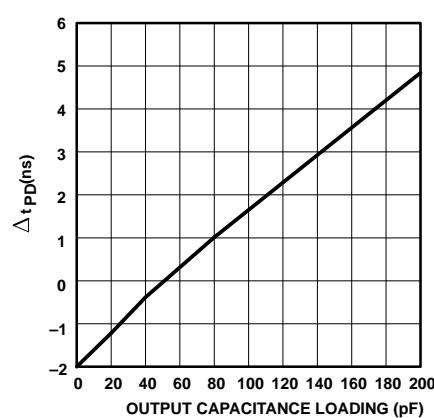

Figure 2. Δt_{PD} vs Output Capacitance Loading (Typical)
7. Refer to Figure 2 for Δt_{PD} vs output capacitance loading.